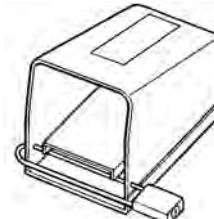

Figure 1 – Locked Foot Switch
- Lock foot switch when machine is not in use (*Figure 1*). Avoids accidental starting.